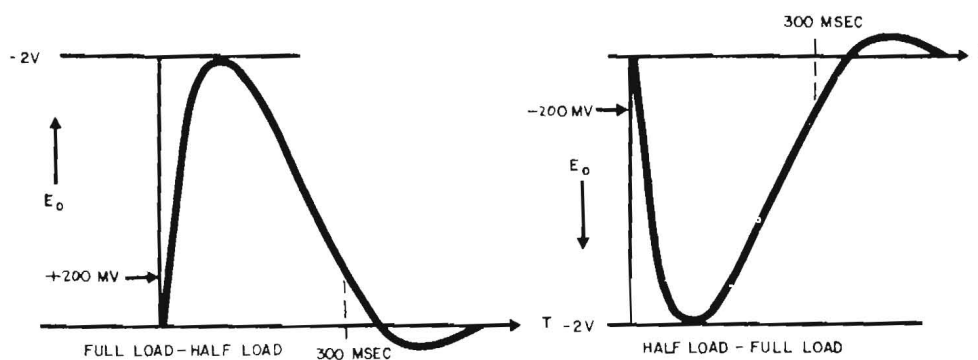

FIGURE 5-5 TRANSIENT RECOVERY TIME, WAVEFORM
- e. Oscilloscope display should be as shown in figure 5-5.